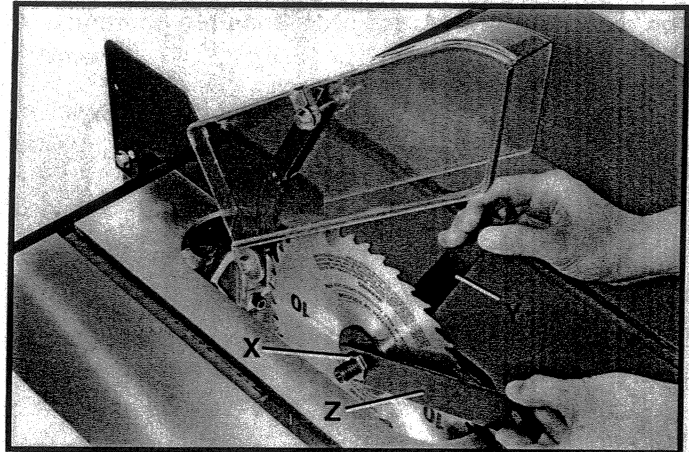

Fig. 45
11. Reassemble the saw blade, making certain the teeth are pointing down at the front of the saw table as shown in Fig. 45, and assemble the outside blade flange and arbor nut (X). With open end wrench (Y) on the flats of the arbor to keep it from turning, tighten arbor nut by turning box end wrench (Z) counterclockwise.